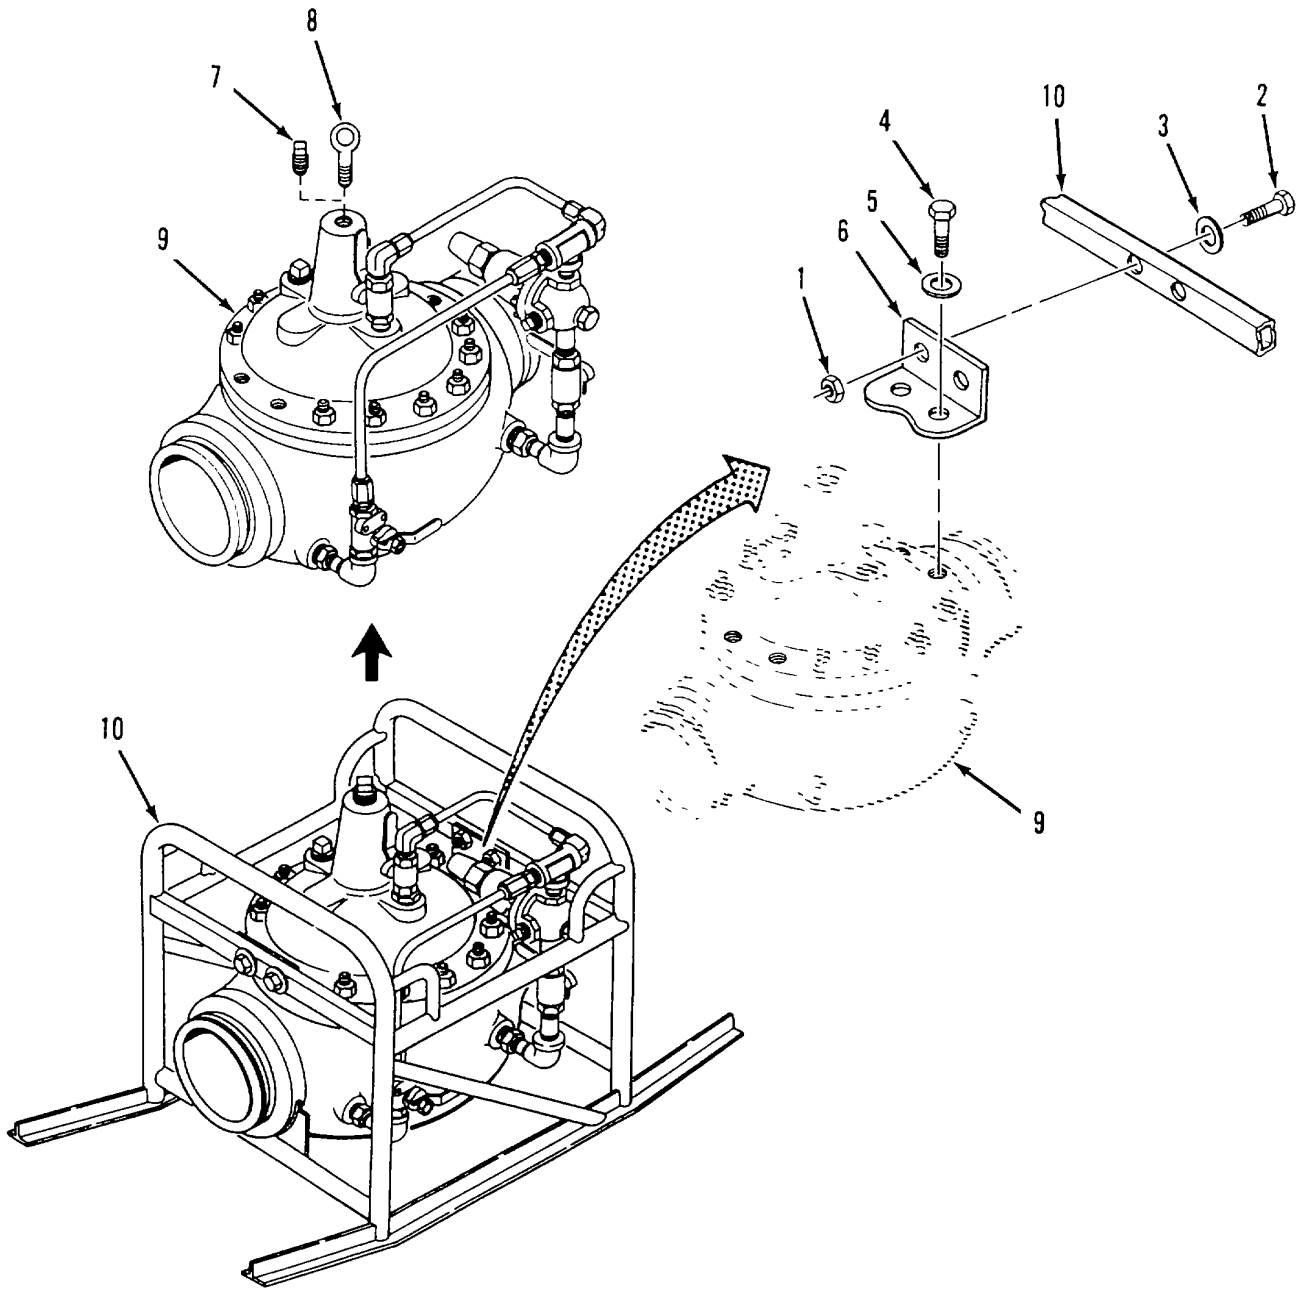

Figure 4-22. Pressure Regulating Valve Installation.
Install Valve. Refer to figure 4-22.
- (36) Remove eyebolt (8, figure 4-22) from top of pressure regulating valve (9) and install plug (7).
- (37) Install pressure regulating valve in water system (para 3-4).
- (38) Startup water system (para 2-13c) and check pressure regulating valve for leaks.